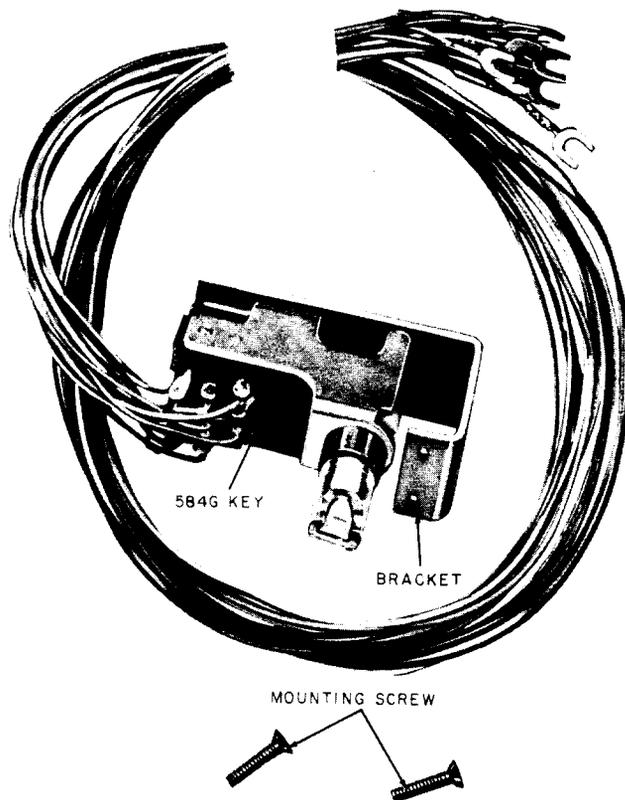

Fig. 7—612B Key
**2.22** The 612B key (Fig. 7) consists of a 584G key equipped with a bracket for mounting to a 1/8-inch maximum thickness panel or housing. The key is 2 inches long, 29/32 inches wide, and 2 inches high and is intended for use as a line transfer or cutoff and signaling key for 1A, 1A1, or 1A2 Key Telephone Systems. It can also be used with interphone circuit similar to 1A home interphone or 2A farm interphone. Refer to Section 502-750-401 for typical circuit and schematic for this key.